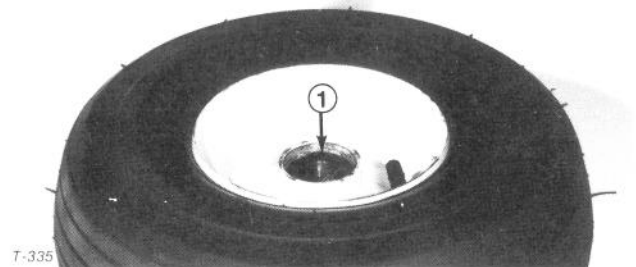

Figure 38
3. Remove bearings from wheel hub (Fig. 38). Clean the bearings in solvent and assure they are in good operating condition. Also, clean the inside of the wheel hub.